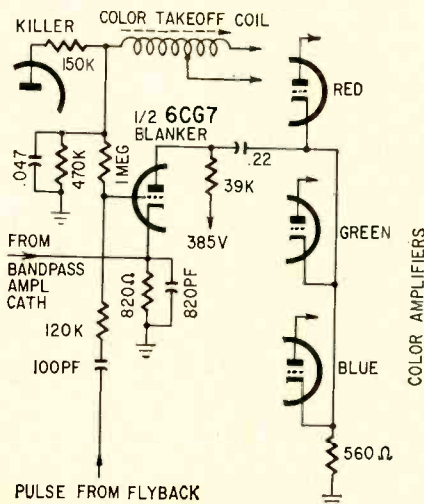

Fig. 9—Blanking amplifier—conventional vertical and horizontal retrace blanking, plus amplifier stage.
9. The blanking tube (Fig. 9). Because there are so many signals going in so many directions around here, we don't want any trouble with retrace of either kind. So, we add the blanking amplifier stage, Fig. 9. This is nothing but amplified retrace blanking. Same circuit used in uncounted jillions of black-and-white sets, except that we are using a tube to be sure that the picture tube stays cut off during horizontal and vertical retrace times.